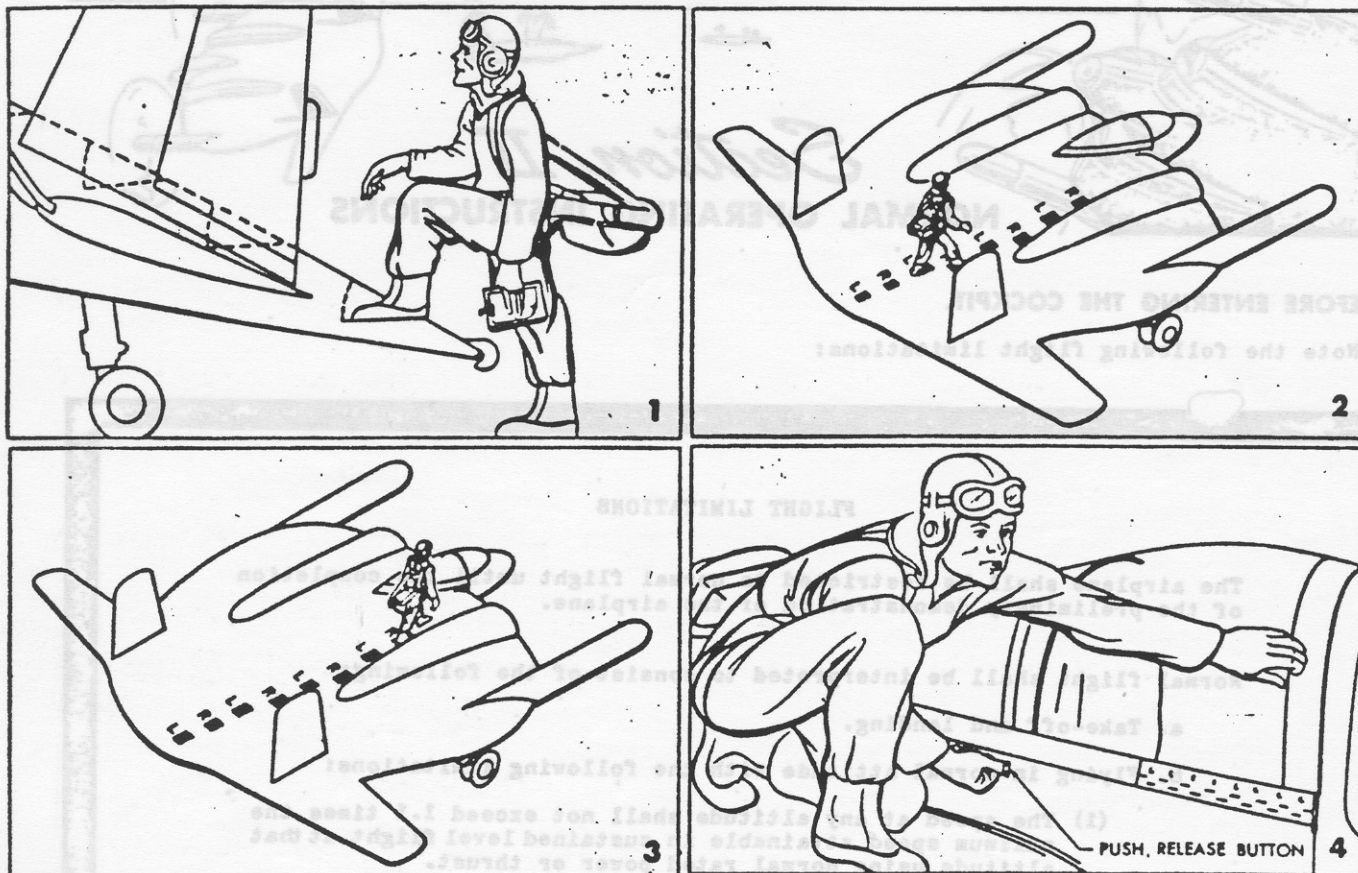

Figure 27 — Entrance to the Cockpit
(1) Enter the cockpit by walking up the back of the airplane from the trailing edge forward. Steps, which depress to a horizontal position under foot pressure, are provided to the right of the airplane centerline. Whether going up or down the airplane, always start with the left foot. (See figure 27.)
(2) Open the canopy from the right hand side by pressing the push point on the side of the cockpit, thereby disengaging the gear train which operates the sliding section. Pull the canopy aft.